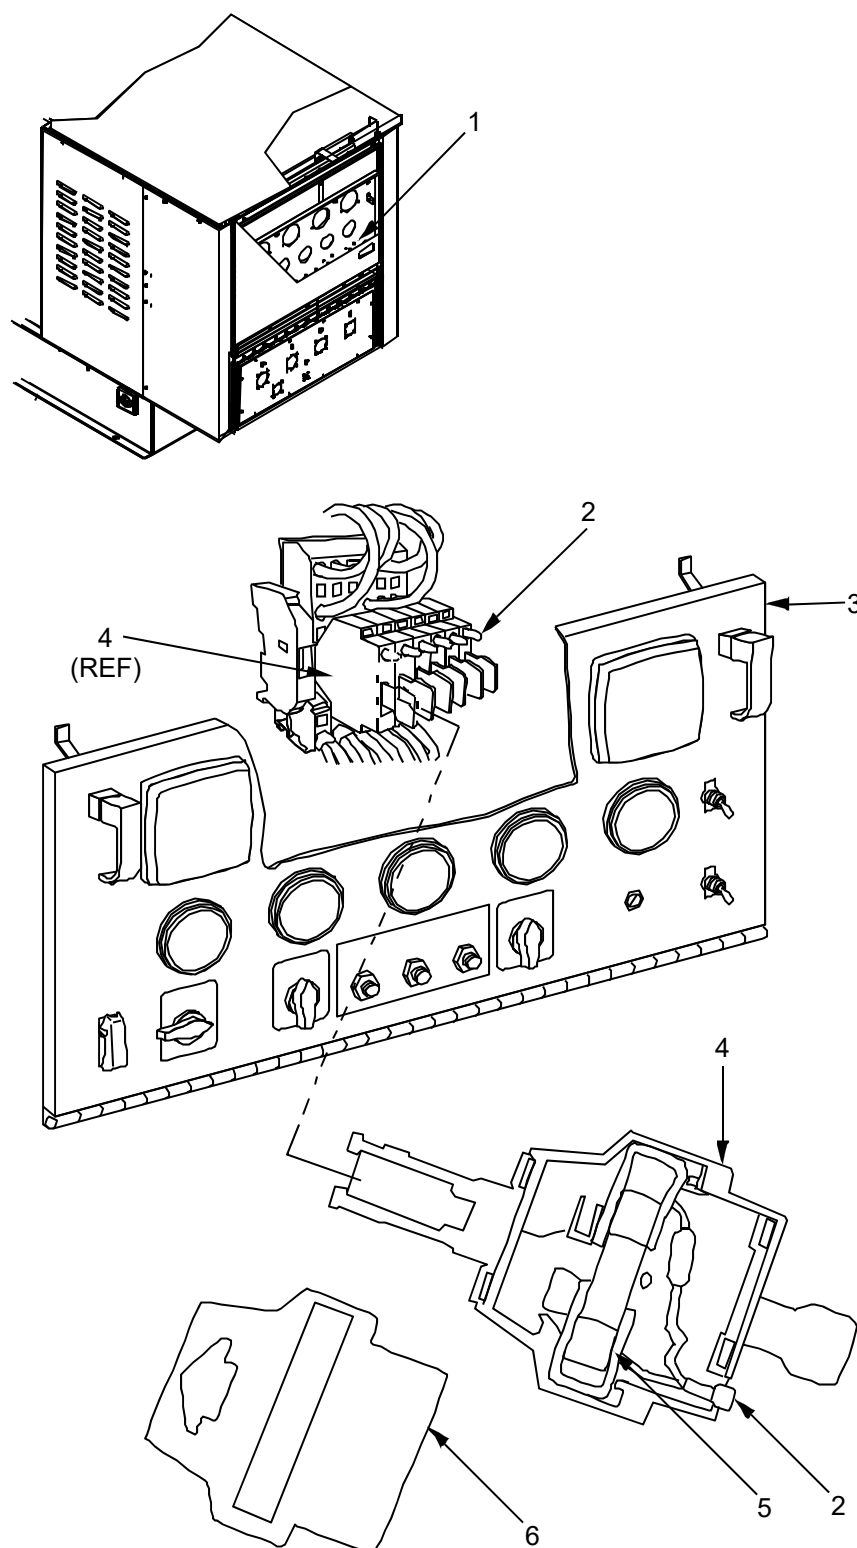

Figure 1. Fuse Removal/Replacement.
3. Open control panel (Figure 1, Item 3) and observe LEDs (Figure 1, Item 2). If LED is on, fuse is bad, replace.
2. Open control panel (Figure 1, Item 3).
3. Remove retainer (Figure 1, Item 4) from inside of control panel cavity.
4. Open cover (Figure 1, Item 6) and remove fuse (Figure 1, Item 5).
1. Install new fuse (Figure 1, Item 5) and snap cover (Figure 1, Item 6) into place.
2. Insert retainer (Figure 1, Item 4) into empty slot in control panel cavity.
3. Close control panel (Figure 1, Item 3) and secure.